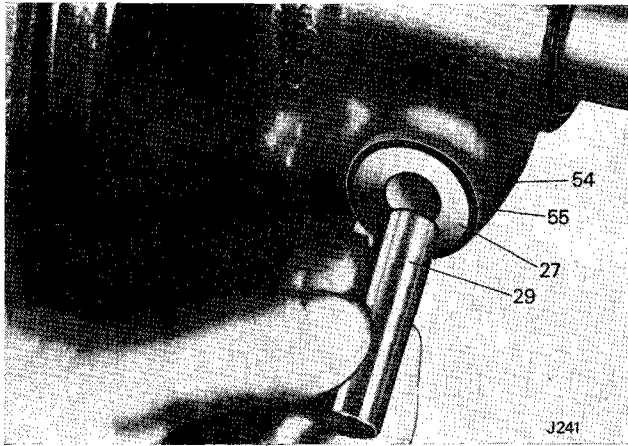

Fig. 52. Removing steel bush from nylon bushes in trunnion housing
5. Remove the bolt (31), Fig. 44, and withdraw the vertical link (10) from the trunnion housing (26). Remove the steel bush (29), Fig. 52.